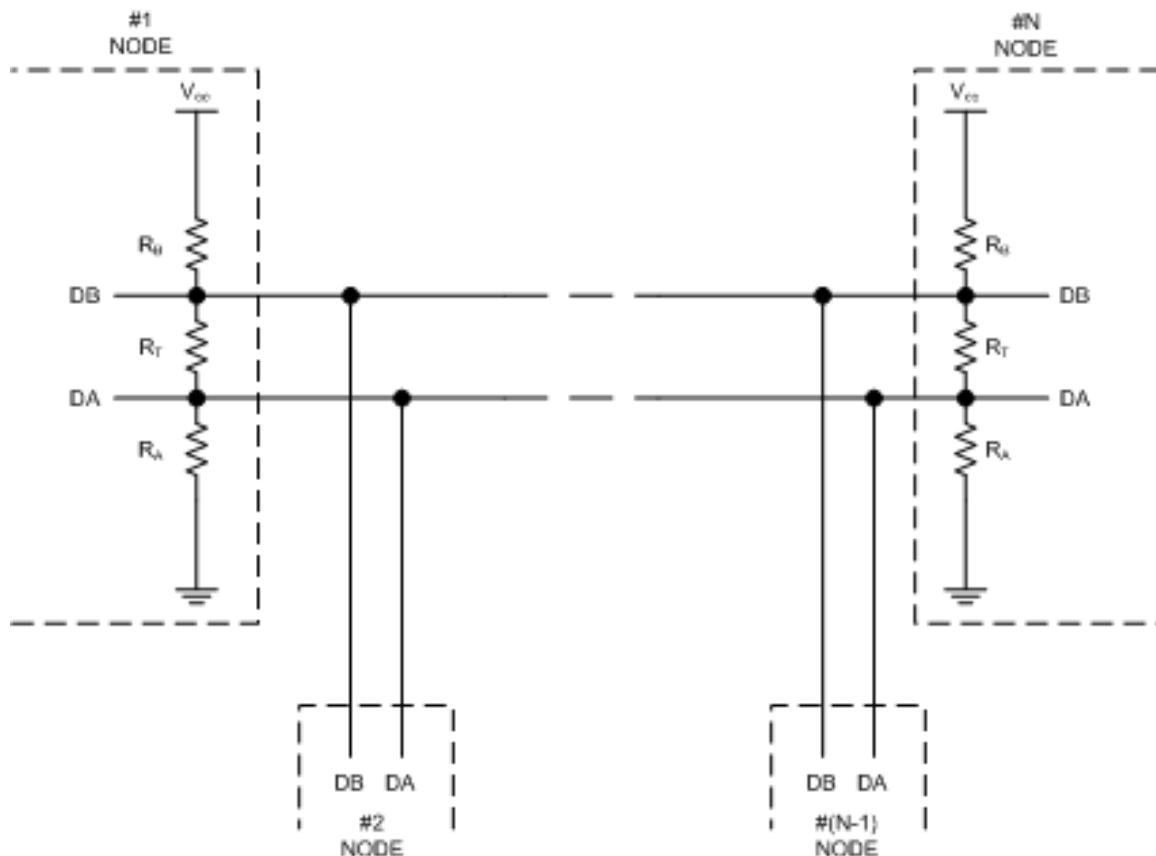

Figure 2.4.2 – RS485 Network
Figure 2.4.2 shows the correct way to configure an RS485 network, the important things to note are:
1. The DA DB network is terminated at the nodes that are physically at either end of the network, in Figure 2.4.2 this is nodes #1 and #N.